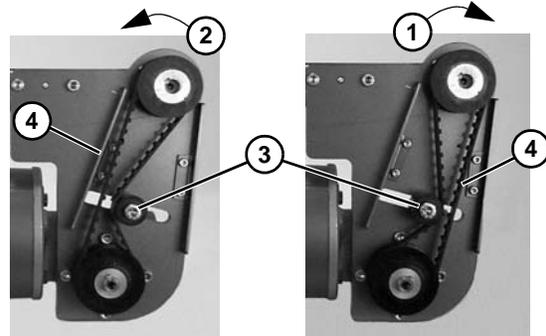
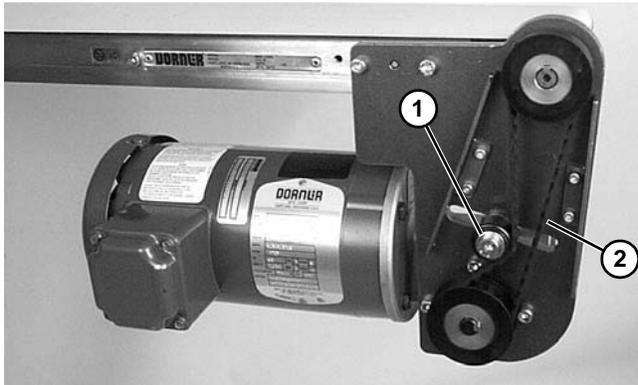

Figure 21
Figure 23
10. Depending on conveyor belt travel (direction 1 or 2), locate timing belt tensioner (**Figure 21, item 3**) as shown. Tension timing belt to obtain 0.125" (3 mm) deflection for 1.0 lb (456 grams) of force at timing belt mid-point (**Figure 21, item 4**). Tighten tensioner screw to 103 in-lb (12 Nm).
2. Loosen tensioner (**Figure 23, item 1**).
3. Depending on conveyor belt travel (direction 1 or 2), locate timing belt tensioner (**Figure 21, item 3**) as shown. Tension timing belt to obtain 0.125" (3 mm) deflection for 1.0 lb (456 grams) of force at timing belt mid-point (**Figure 23, item 2**). Tighten tensioner screw to 103 in-lb (12 N-m).
5. Depending on conveyor belt travel (direction 1 or 2), locate timing belt tensioner (**Figure 21, item 3**) as shown. Tension timing belt to obtain 0.125" (3 mm) deflection for 1.0 lb (456 grams) of force at timing belt mid-point (**Figure 21, item 4**). Tighten tensioner screw to 103 in-lb (12 N-m).